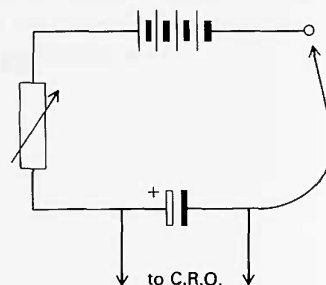

Figure B48
**B14h** The oscilloscope can also be used to show how the p.d. across the capacitor changes with time (figure B48).